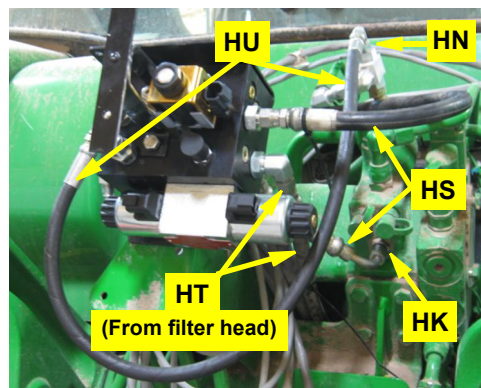

Figure 7b: Pressure, tank and load sense hoses installed at steering block
a. Install the pressure hose **HS** between the adapter fitting **HK** installed in the hydraulic valve stack (at step 5a) and the P port of the hydraulic steering block (Figure 7b).
c. Install the load sense hose **HU** between adapter **HN** in the load sense shuttle valve and the LS port of the hydraulic control block (Figure 7b).